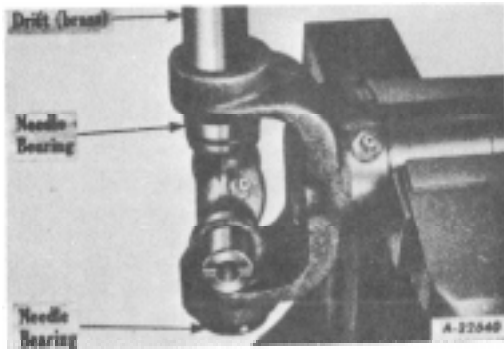

Fig. 18
- e. Tap the needle bearing until the opposite needle bearing is free of the yoke, using a soft round drift (brass) with a flat face about 1/32" smaller than the diameter of the hole in the yoke to prevent damage to the bearing, Fig. 18.